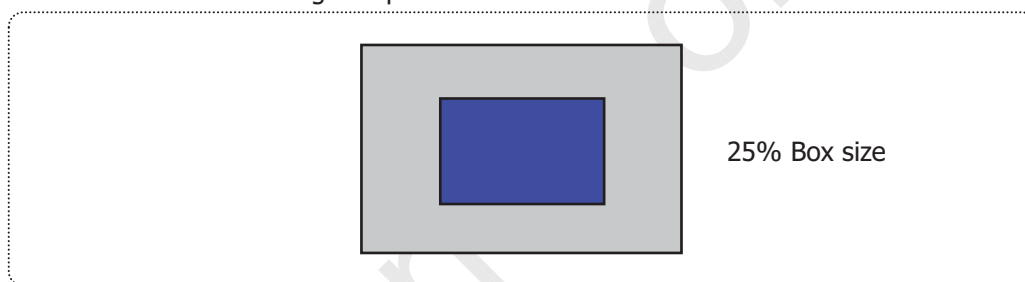

FIG.10 Color Shift Test Pattern
5. Color shift is the angle at which the average color difference for all Macbeth is lower than 0.02. For more information see FIG.10 **(By EZ Contrast)**